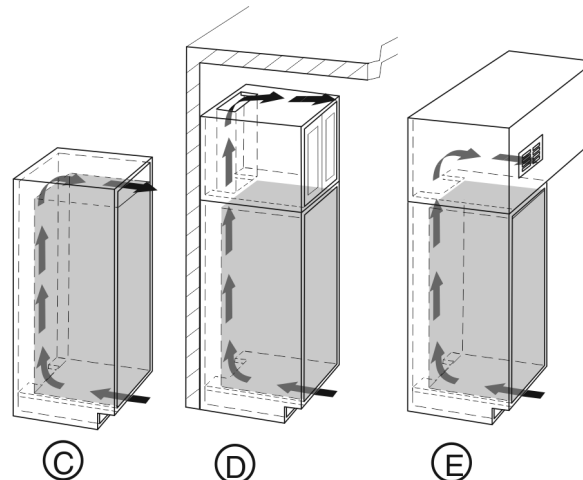

Fig. 6
- The top ventilation gap can be set up either directly above the appliance with an optional ventilation grid Fig. 6 (C) near the ceiling, above the cabinet Fig. 6 (D) or as an air vent in a false ceiling Fig. 6 (E).